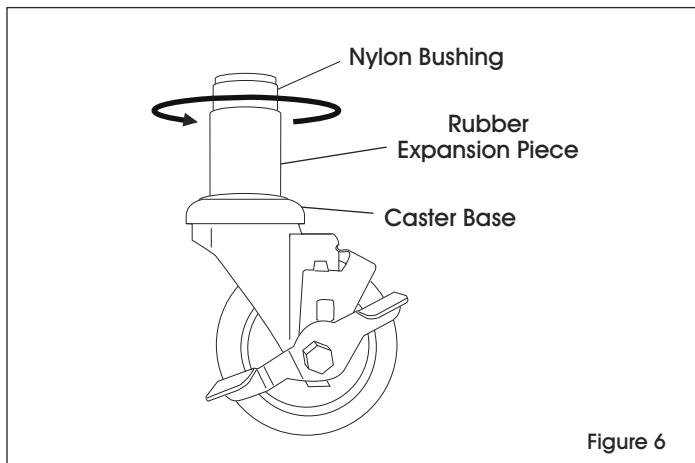

Figure 6
2. Hold caster base and rotate nylon bushing clockwise. This will cause the rubber piece to expand. (See Figure 6)